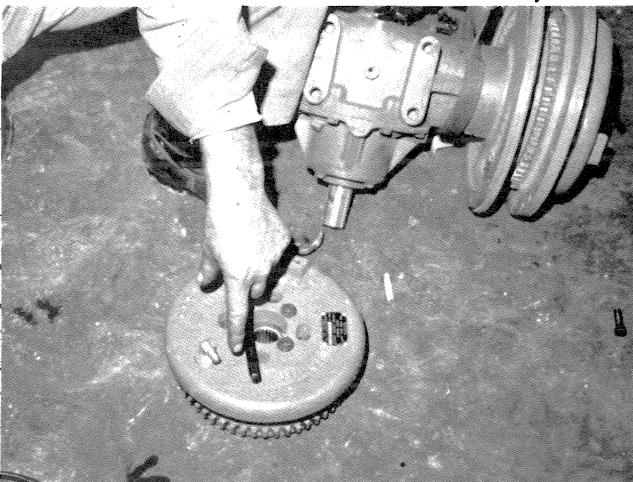

Figure 11. Clutch Disassembly
- (11) Remove the four safety-wired Allen head cap-screws from the clutch disc assembly (Fig. 11). This releases the clutch for disassembly.